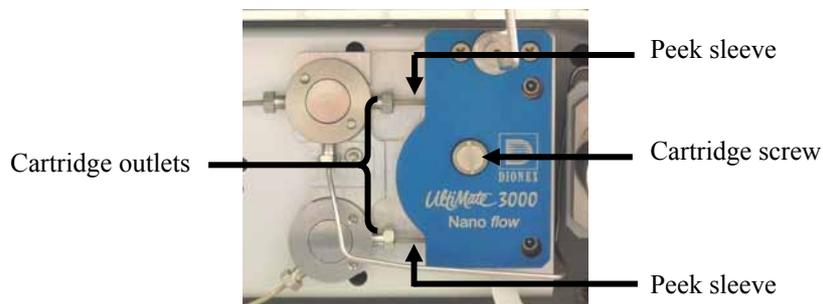

Fig. 23: Splitter cartridge
2. Loosen the fittings on the splitter cartridge outlets (→ Fig. 23).
3. Loosen the cartridge screw (→ Fig. 23).